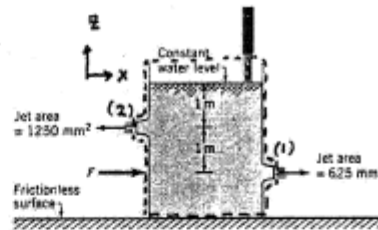

FIGURE P5.48
5.48 Water is added to the tank shown in Fig. P5.48 through a vertical pipe to maintain a constant (water) level. The tank is placed on a horizontal plane which has a frictionless surface. Determine the horizontal force, F , required to hold the tank stationary. Neglect all losses.